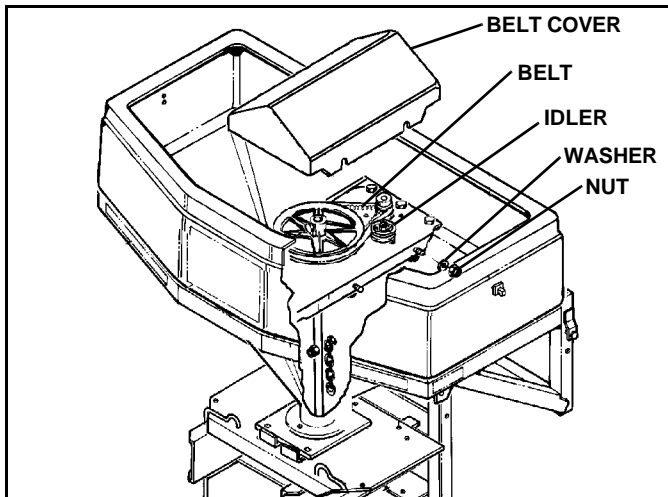

Figure 2-1
4. Loosen four (4) Nylock Nuts and four (4) plain washers securing Belt Cover to crossbrace. (See Figure 2-1)